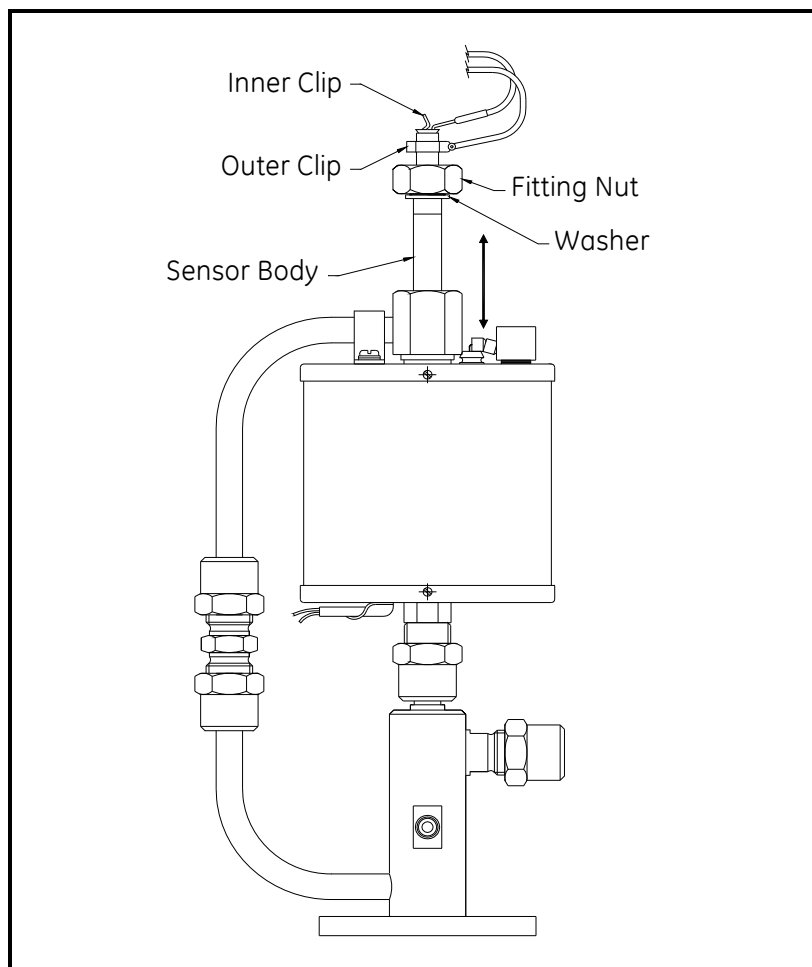

Figure 34: Partially Removed Oxygen Sensor
2. Locate the oxygen sensor and the oxygen sensor clips (see Figure 34). Use pliers to remove the inner and outer clips from the oxygen sensor. To remove the inner clip, pinch the ends together and pull the clip out of the oxygen sensor. The outer clip is easily removed by pulling it away from the oxygen sensor body.
3. While wearing heat resistant gloves, slowly unscrew the fitting nut until it is completely free of its fitting. Carefully lift the oxygen sensor up and out of the sensor furnace. Figure 34 shows an oxygen sensor that has been partially lifted out of the sensor furnace. Make sure that the sensor does not hit the sides of the sensor furnace during its removal.